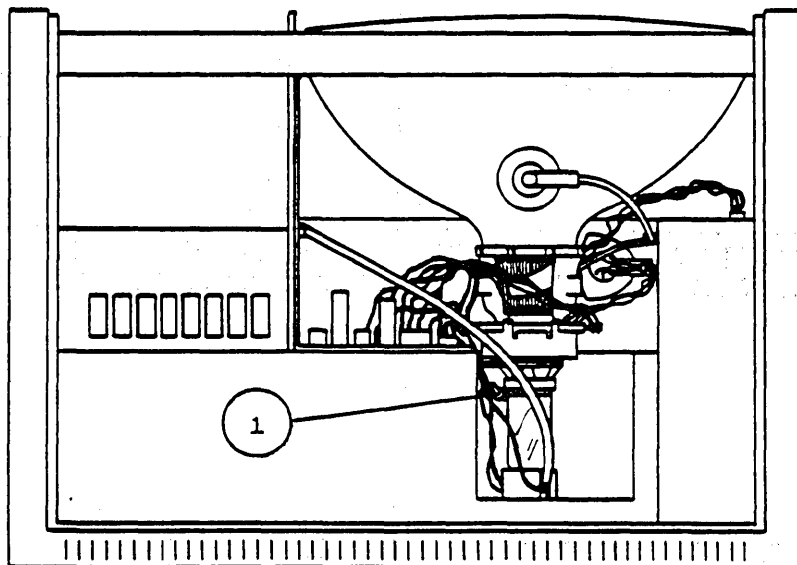

Figure 4
2. With a medium or small flatblade screwdriver, carefully loosen the yoke clamp screw (Figure 4, #1). Rotate the yoke by gripping it **only on the plastic section near the centering rings**, until the center vertical of the crosshatch is parallel to the center vertical on the graticule.